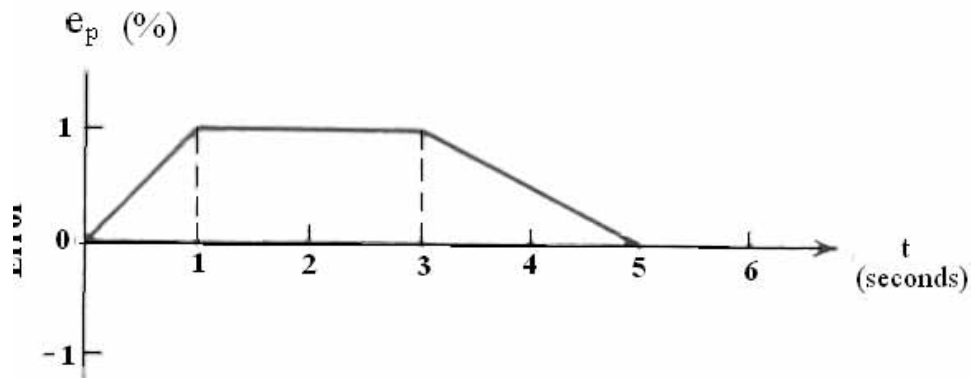

Figure Q 9 (b)
- Q. 9 A Define proportional plus Derivative (PD) controller along with mathematical equation. Explain the reason why derivative controller is added to proportional. 6
- B Figure Q 9 (b) shows an error time graph. Sketch the PD controller output w.r.t time $K_p = 5\%/ \%$, $K_D = 0.5 \%/s$ and $m(0) = 30\%$ 10